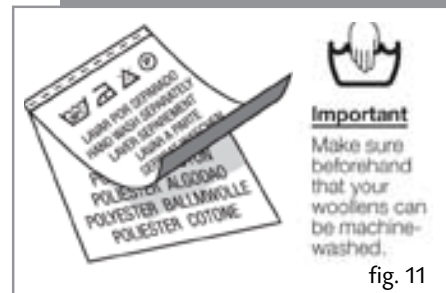

fig. 11
- We recommend using the delicate programmes for sensitive fabrics (Figure 11).